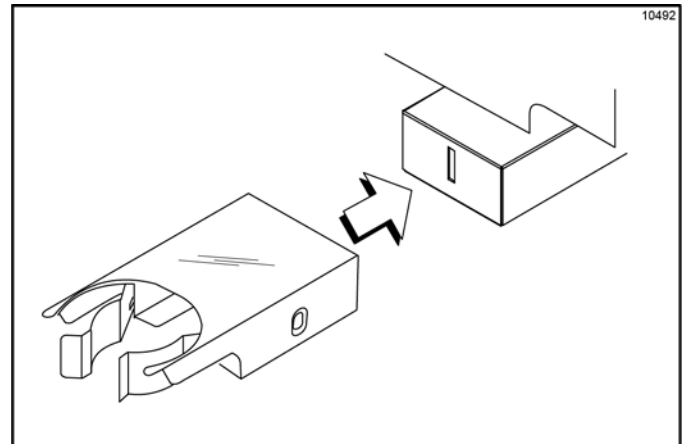

Figure 6-59
3. Install the shake cup holder. (See Figure 6-59)